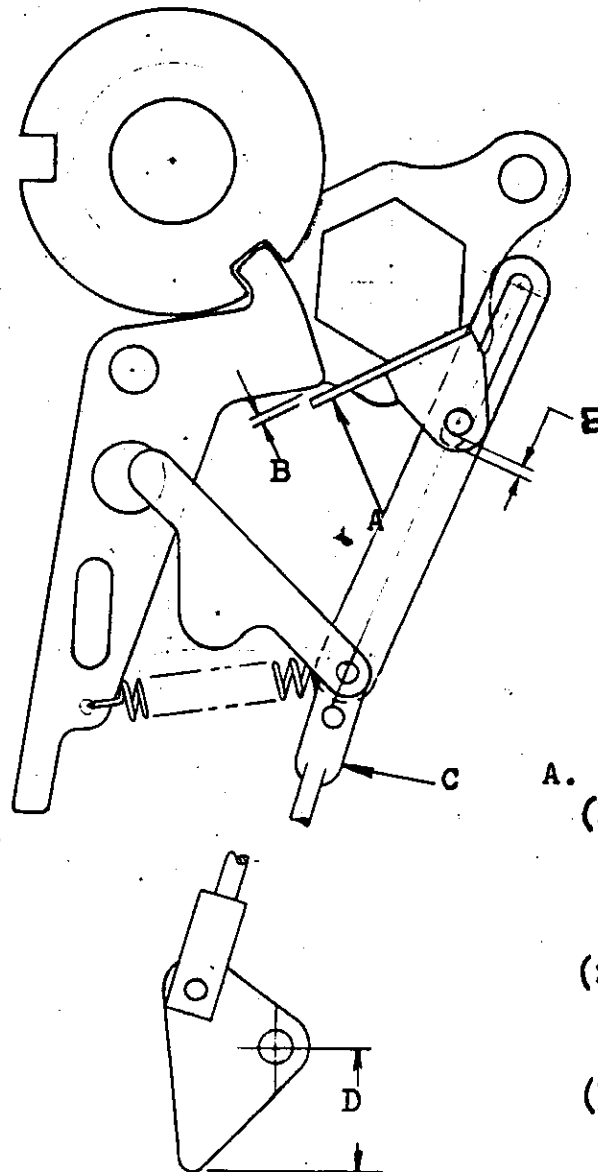

FIG. 11-1
- (1) With breaker closed and interlock in test position, bend A (Fig. 11-1) until B is $1/64$ to $1/16$.
- (2) With interlock in test position, adjust C until D is $1 \frac{1}{4} \pm 1/32$.
- (3) When breaker is closed, there should be a min. of $1/32$ and a max. of $1/16$ between pin and blocking link at E.